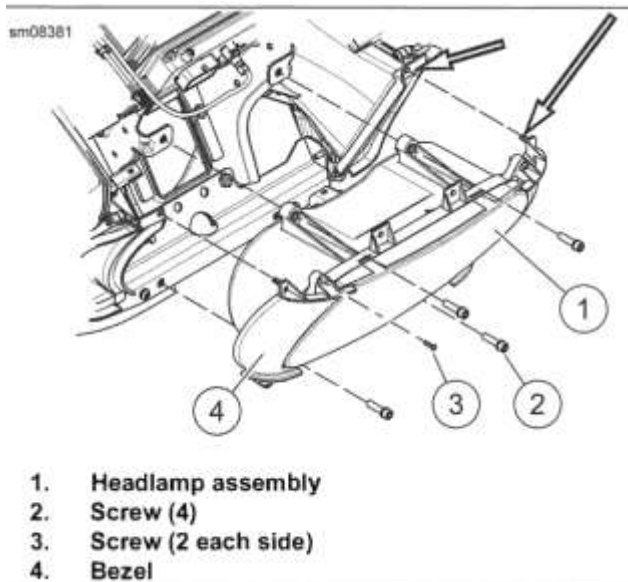

Figure 8-43. Headlamp: FLTR
2. See Figure 8-43. Remove four screws (2).
4. If necessary, remove screws (3) to remove bezel (4) from each side of headlamp assembly.
1. See Figure 8-43. If removed, secure bezel (4) with screws (3) to each side of headlamp assembly. Tighten.